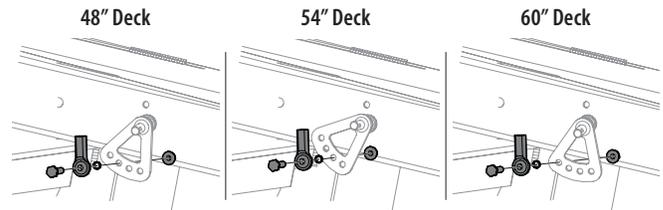

Figure 3
4. Install rod end (723-04077) to discharge shaft assembly (680-01596) with a hex screw (710-0597), spacer (750-05212) and flange lock nut (712-04064). See Figure 3.
NOTE: Position depends on deck size. See Figure 3 for 48", 54" and 60" deck placements.